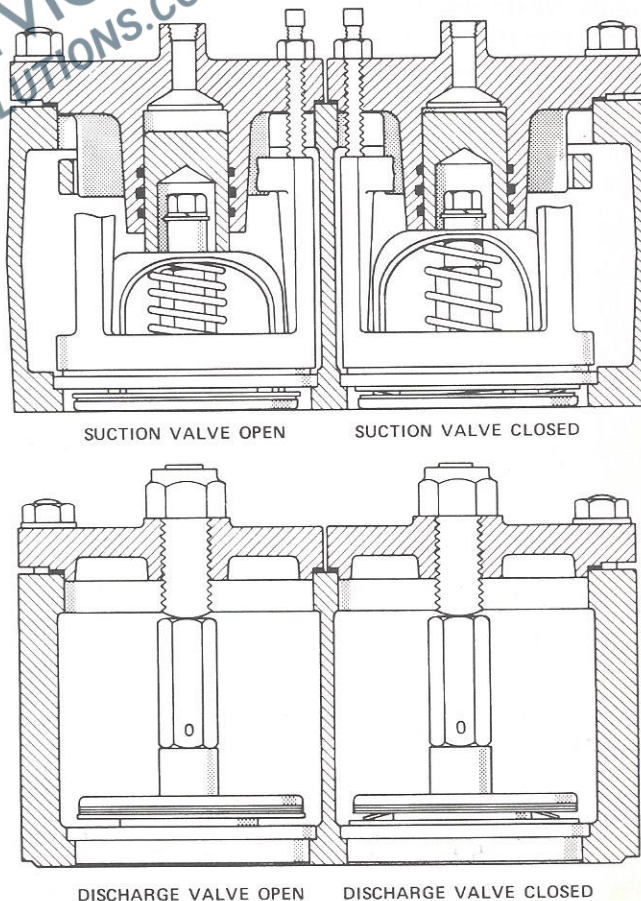

Figure 14 — Valve Assemblies
- Lift out valve assemblies. (See Figure 14)